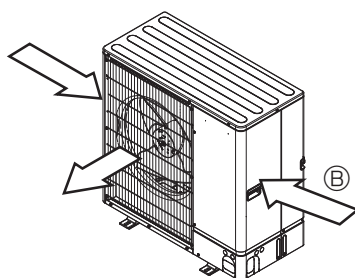

Fig. 4-23
- Position the unit so that the air outlet blows perpendicularly to the seasonal wind direction, if possible. (Fig. 4-23)
(2) When installing a single outdoor unit (Refer to the next page)